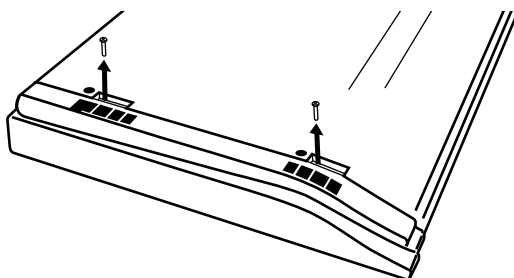

Figure 2-3 Removing screws from the bottom panel
1. On one of the MC Mixes, use a #2 Phillips screwdriver to remove the two silver screws (Figure 2-3).